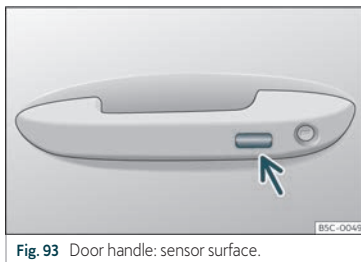

Fig. 93 Door handle: sensor surface.
- **OR** by means of the Keyless Access* (only closing): Press and hold the locking sensor surface >>> **Fig. 93** (arrow) on the door handle for several seconds to close the windows and the sunroof*. If you release the sensor surface, the closing movement stops.
- Press and hold the locking sensor surface >>> Fig. 93 (arrow) on the door handle to close the sunroof. If you release the sensor surface, the closing movement stops.